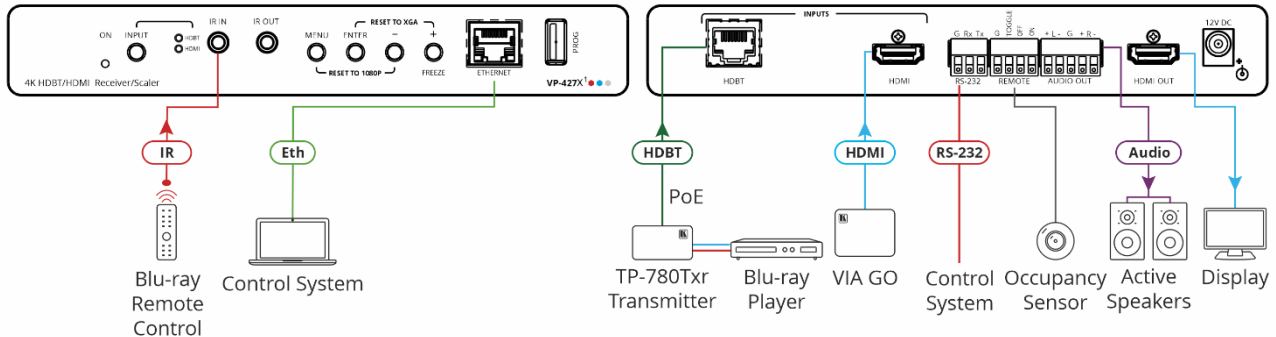

Figure 3: Connecting to the VP-427X1
To connect VP-427X1 as illustrated in the example in Figure 3:
1. Connect an HDBT transmitter (for example, Kramer **TP-780Txr**) to the INPUT HDBT RJ-45 port (12) on the front panel. The transmitter is connected to a Blu-ray player.
2. Connect an HDMI source (for example, Kramer **VIA GO**) to the HDMI INPUT connector (13).
3. Connect the HDMI OUT connector (17) to an HDMI Acceptor (for example, a display).
4. Connect the REMOTE pins (15) to contact closure switches (for example, an occupancy sensor). (See Connecting the Remote Control Switches on page 9).
5. Connect the AUDIO OUT 5-pin terminal block connector (16) to a balanced stereo audio acceptor (for example, Kramer **Tavor 5-O** active speakers).
6. Connect an IR sensor to the IR IN 3.5mm mini jack (4). In this example, point the Blu-ray remote controller to the sensor to control the Blu-ray that is connected to **TP-780Txr** via HDBT.
7. Connect a control system (for example, a laptop) to the ETHERNET RJ-45 port (10).
8. Connect a control system to the RS-232 3-pin terminal block connector (15). (See Connecting to VP-427X1 via RS-232 on page 8).
9. If there is no PoE input, connect the power adaptor to the **VP-427X1** and plug the adaptor to the mains electricity (not shown in Figure 3).